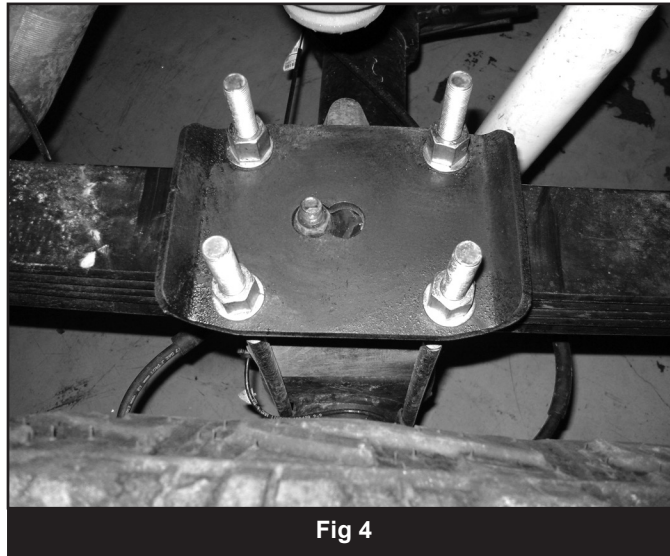

Fig 4
16. Repeat block installation of the driver's side. Take care not to over extend the brake lines. **Note:** The parking brake cable bracket will need to be removed from the spring center pin. (Fig 4)